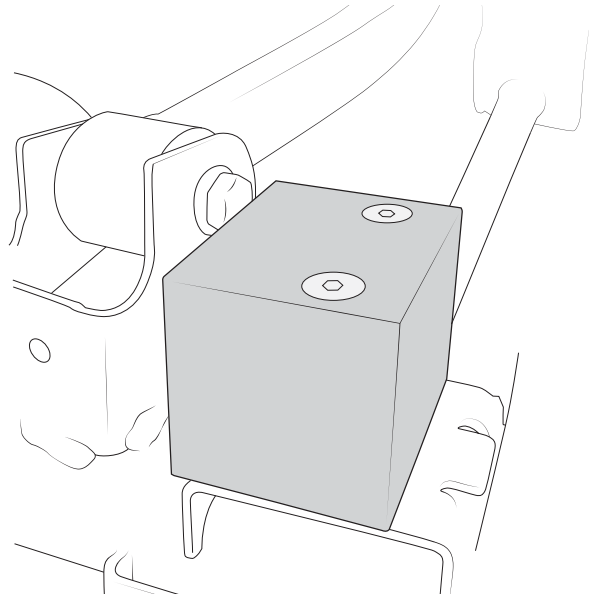

Figure 35
- F. Install new Bump Stop Spacers on the rear axle as shown (Fig. 35) using the supplied hardware. DO NOT reverse the orientation from what is shown (screws should be inboard.)